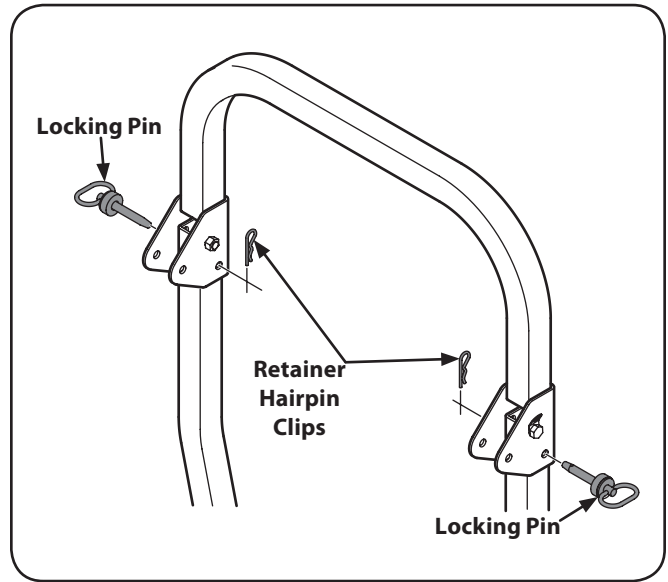

Figure 3-7
8. Move the upper ROPS section to the upright position, and insert the locking pins with their retainer hairpin clips. See Figure 3-7.